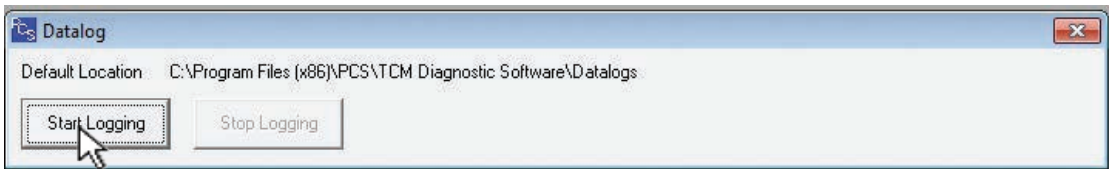

Figure 2
2. The datalog form will display and show the default save location (Cannot be changed at this time). Select “Start Logging” to begin the data log. **Reference Figure 2.**